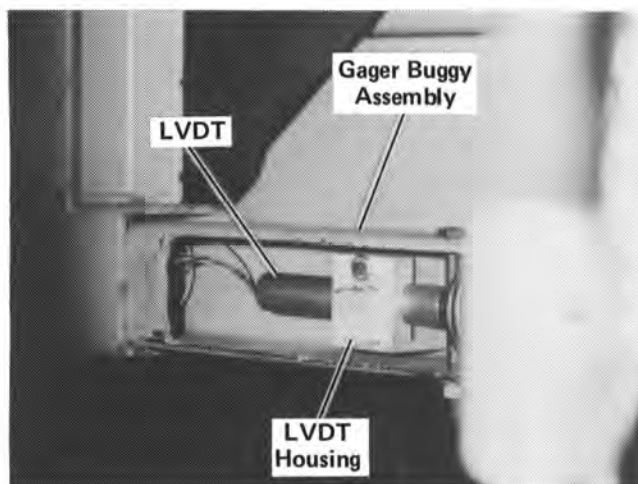

Figure 45
4. Check the voltage from wire #130 to wire #2. Move the LVDT housing until the meter reads the voltage corresponding to the gage measurement obtained from step 3 (see chart). See Figure 45.